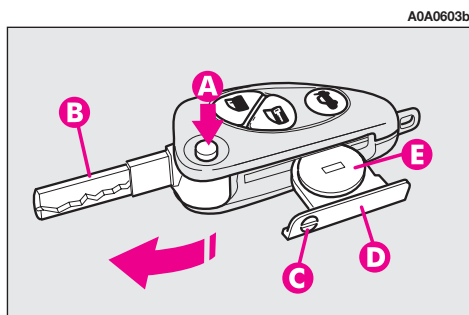

fig. 5
- press button (A-fig. 5) and move the metal insert (B) to the open position;
- using a finely-tipped screwdriver, turn the opening device (C) and pull out the battery holder (D);
- replace the battery (E) making sure that the bias is correct;
- re-insert the battery holder in the key and lock it, turning the device (C).